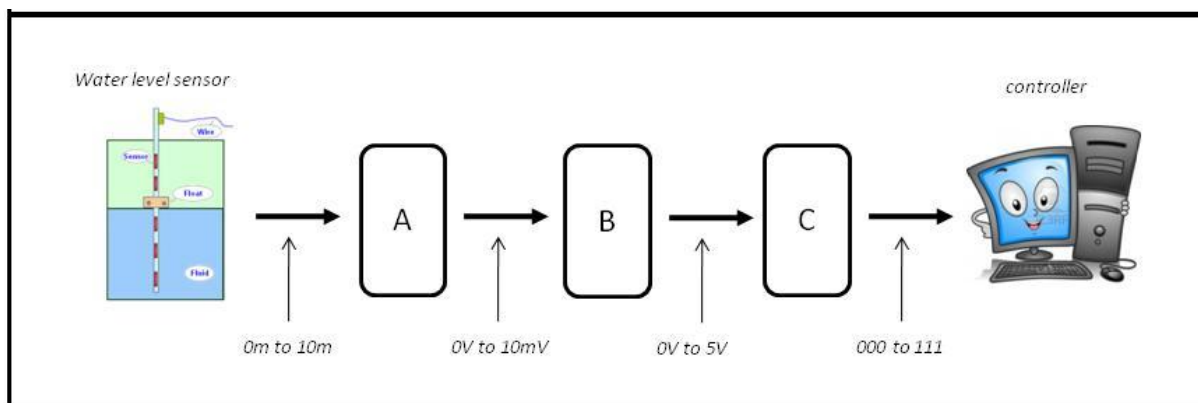

Figure 2: Water level application
- (a) In signal conditioning **Figure 2** shown the flow of the signal from the sensor to the controller. Name the treatment blocks A, B and C. (3 marks)